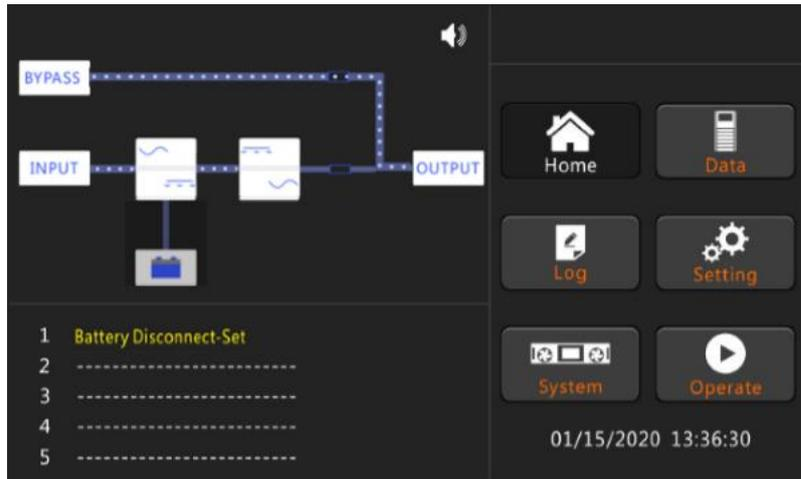

Figure 4-3 Inverter starting
5) After the bypass static switch is on, the inverter starts and the inverter indicator bar flashes as shown in Figure 4-3.